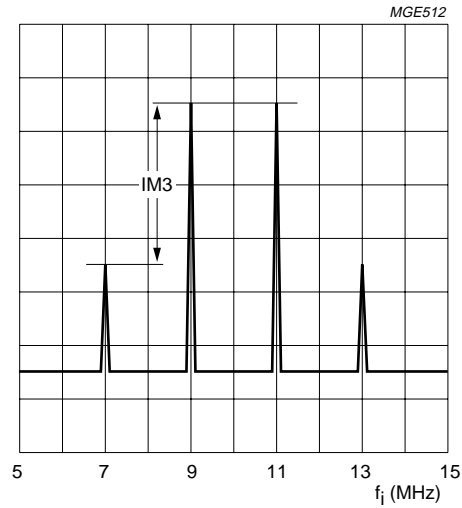

Fig.3 IM3 definition.
7. The specified intermodulation distortion is the minimum value obtained from intermodulation measurements in the I and Q channels. Intermodulation is measured with two sine wave signals at  $f_{i(\text{RF})} = 79$  MHz and  $f_{i(\text{RF})} = 81$  MHz with an amplitude of 67 dB $\mu$ V for each tone. The difference in level between the converted carriers (9 MHz and 11 MHz) and the intermodulation products after frequency conversion (7 MHz and 13 MHz) is defined as IM3 (see Fig.3).